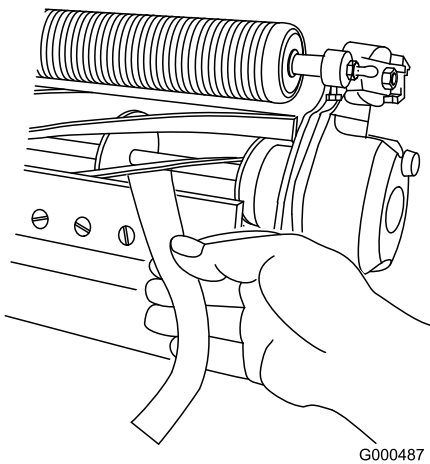

Figure 13
10. Test the cutting performance by inserting a long strip of cutting performance paper (Toro part number 125-5610) between reel and bedknife, perpendicular to the bedknife (Figure 13). **Slowly** rotate the reel forward; it should cut the paper.